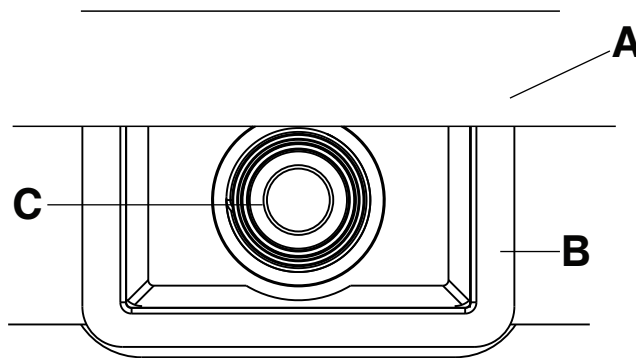
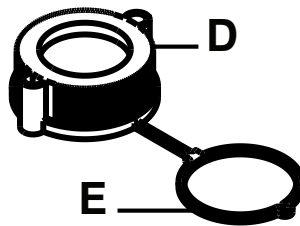

Figure 8 – Air attachment box and body valve
Figure 9 – Cap and tether
2. Grasp the body valve (C) and pull outward so the air attachment box (B) extends outside the support surface cover (A) (Figure 8).
3. Push the tether (E) (Figure 9) over the body valve (C) (Figure 8). Turn the tether (E) in a clockwise motion until it is past the threads on the body valve (C).
4. Make sure that the cap (D) (Figure 9) threads onto the body valve (C) (Figure 8).
5. Push the air attachment box (B) back inside the support surface.